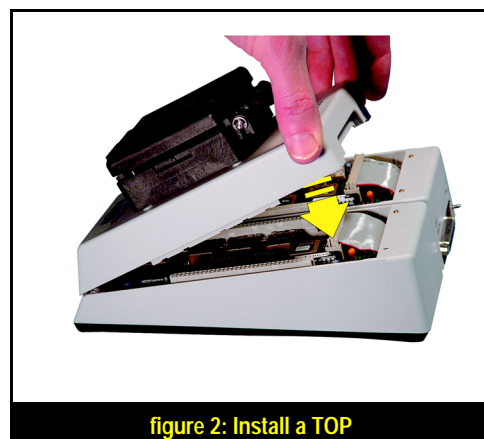

figure 2: Install a TOP
2. Holding the TOP right-side up at a 45 degree angle to the base, hook the plastic tab of the TOP into the notch in the base. See figure 2.